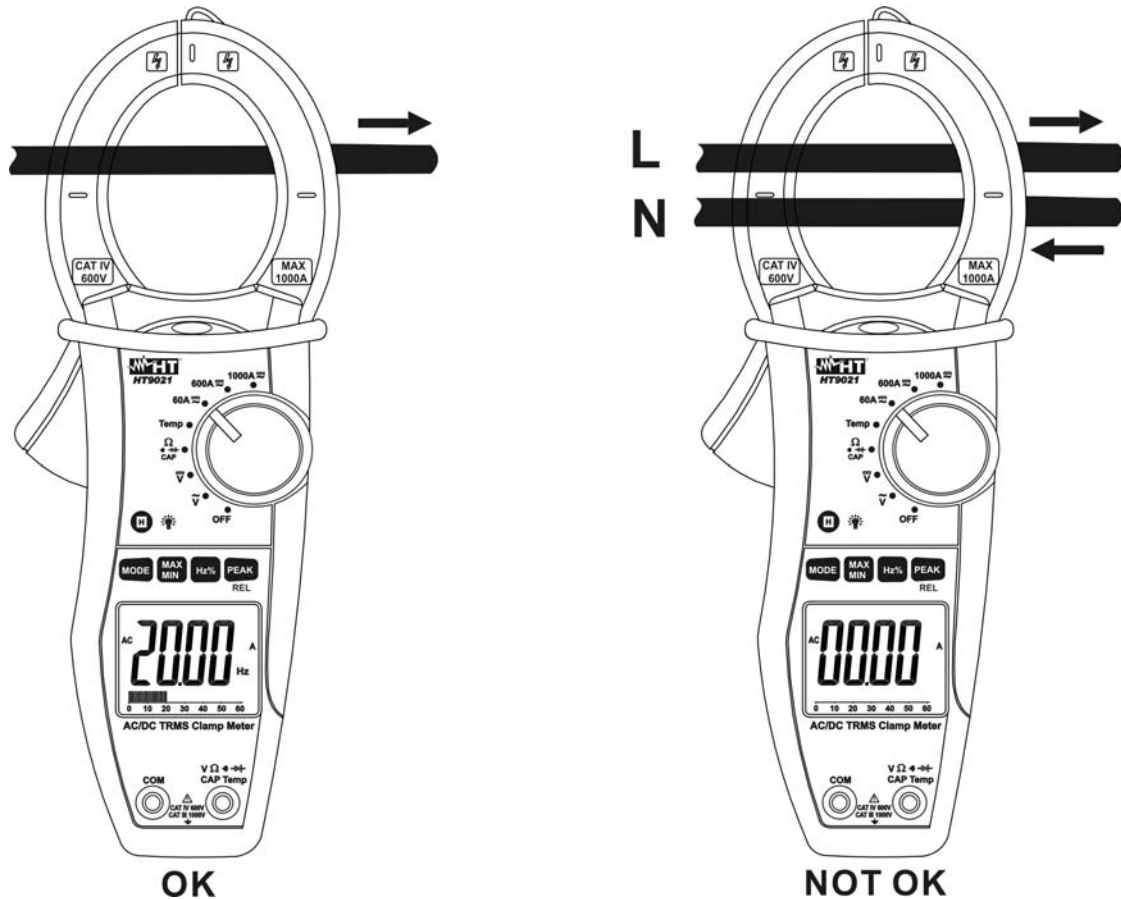

Fig. 9: Taking AC and DC current measurements
5. On DC current measurement the “-” symbol at display means that the meter is connected in the opposite side compared with current direction (see Fig. 9)